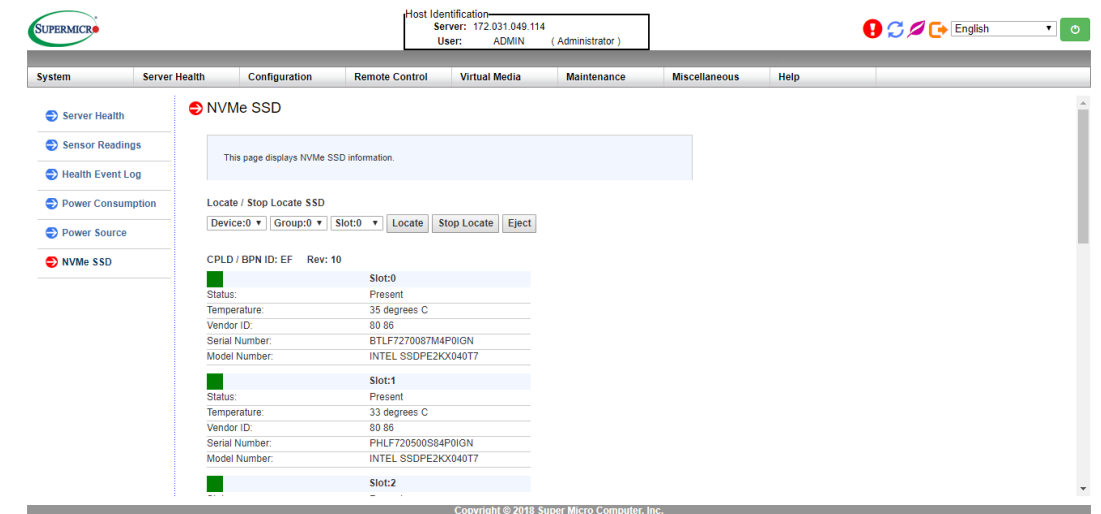

Figure 3-11. IPMI Screenshot
- **IPMI > Server Health > NVMe SSD** – Shows the temperatures of all NVMe drives, as in Figure 3-11.